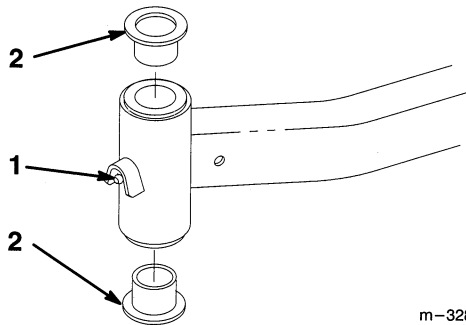

Figure 35
4. Insert a pin punch into the mounting tube and carefully drive out the bushings (Fig. 35). Clean the inside of the mounting tube.
5. Grease the inside and outside of the new bushings. Use a hammer and flat plate to carefully drive the bushings into the mounting tube (Fig. 35).